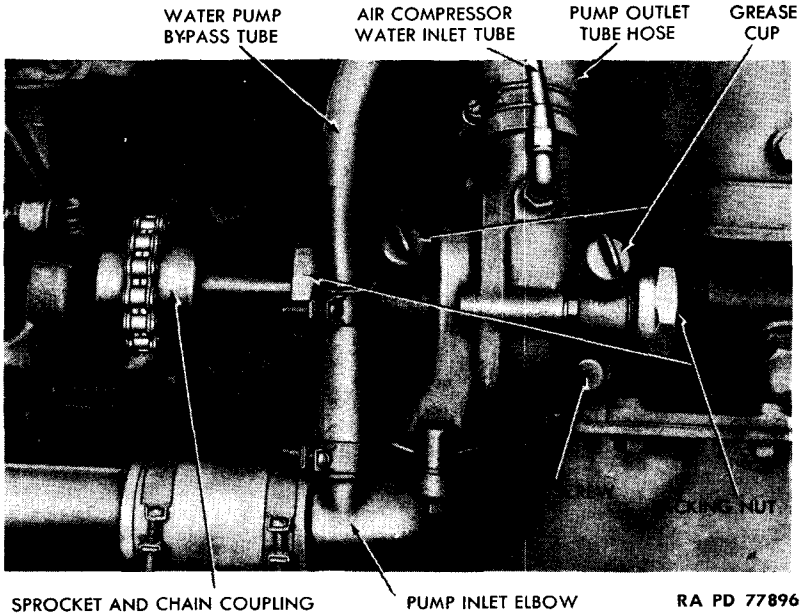

Figure 40 – Water Pump Installed
(1) **DESCRIPTION** (fig. 40). The water pump is the centrifugal type, driven by a horizontal pump shaft which is chain-coupled to the distributor drive shaft. It is mounted on engine at center of left side, and is coupled to the pump inlet elbow, water pump bypass tube, air compressor water inlet tube, and pump outlet tube. The pump assembly includes packing nuts for adjustment.
b. Adjustment (fig. 40.) One packing nut is attached to each end of pump to provide for leakage adjustment. Turn nut at either end
(1) **DISENGAGE PUMP OUTLET TUBE** (fig. 40). Loosen hose clamp which secures hose to pump, and work hose from pump.
(2) **DISCONNECT PUMP INLET ELBOW** (fig. 40). Remove the two cap screws and lock washers which secure elbow to pump, remove elbow gasket, and pull elbow free from pump.
(3) **DISCONNECT AIR COMPRESSOR WATER INLET TUBE** (fig. 40). Screw tube nut from fitting on pump.
(4) **REMOVE PUMP COUPLING CHAIN** (fig. 40). Drive connecting link lock on front of chain from connecting link, remove link cover, and pry link from chain. Remove chain.
(5) **REMOVE PUMP FROM ENGINE** (fig. 40). Remove the four cap screws and lock washers which secure pump to block. Remove pump, then remove gasket.
(1) **INSTALL PUMP ON ENGINE** (fig. 40). Install new gasket, and use dowel guide to position pump on engine. Install the four cap screws and lock washers which secure pump to cylinder block.
(2) **INSTALL PUMP COUPLING CHAIN** (fig. 40). Position chain to pump coupling sprocket. Insert connecting link, secure with lock, and install cover on link.
(3) **CONNECT PUMP INLET ELBOW** (fig. 40). Using new gasket, position elbow to pump, and secure with the two cap screws and lock washers.
(4) **CONNECT PUMP OUTLET TUBE** (fig. 40). Fit hose over tube, and tighten hose clamp.
(5) **CONNECT AIR COMPRESSOR WATER INLET TUBE** (fig. 40). Screw tube nut to fitting on pump and tighten nut.